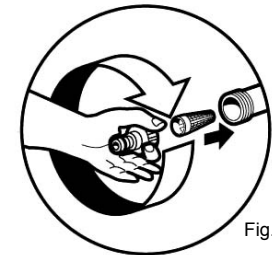

Fig. 4
1. Attach the male adapter (supplied) to the water intake connector on the left hand side of the unit. (Fig. 4)
2. Attach the female hose coupling to the garden hose. (Fig. 4)
3. Connect the female hose coupling to the male adapter making sure that it is tightly secured in place. (Fig. 4)